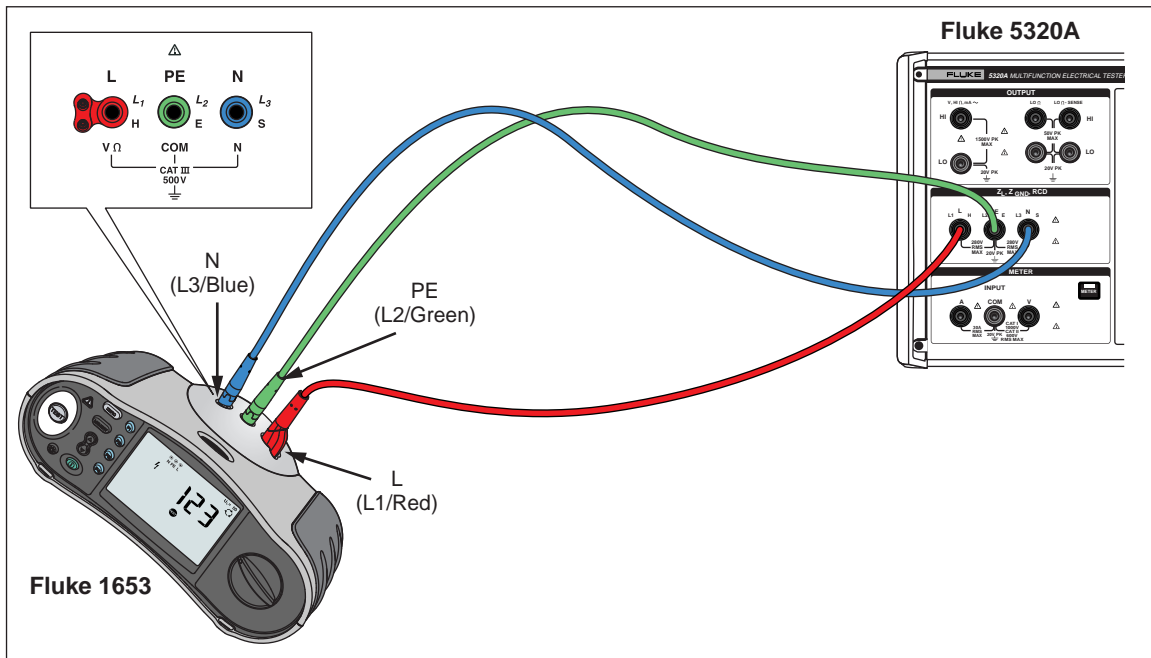

Figure 7-12. Line and Loop Impedance Calibration on a Fluke 1653
1. Using Figure 7-12, connect the UUT to the L, PE and N terminals of the Calibrator. For some line impedance testers, PE does not need to be connected.
1. Using Figure 7-12, connect the UUT to the L, PE, and N terminals of the Calibrator.